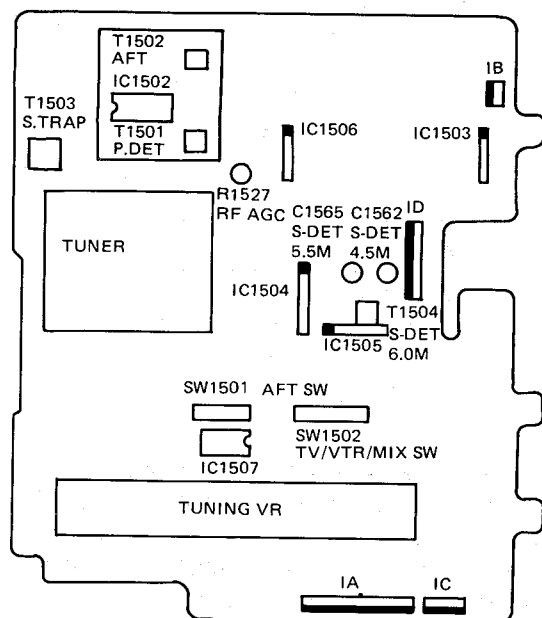

Figure 51.
1. Major volume parts layout drawing (Fig. 51)